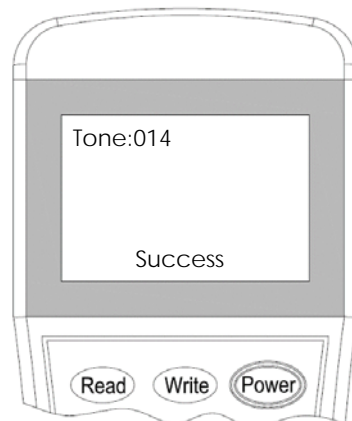

Fig.9 Alarm sound setting
4. Exit the programming tool to the main menu and then press button **"4"** to set alarm sound type. Input the desire tone type from 1 to 16 and then press **"Write"** to save the new tone, as shown in Figure 9.